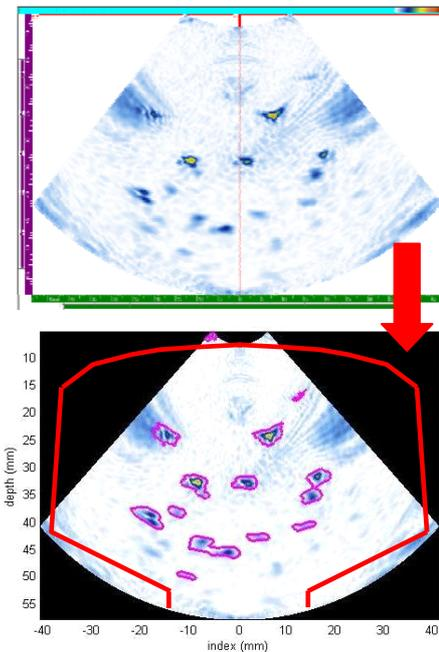
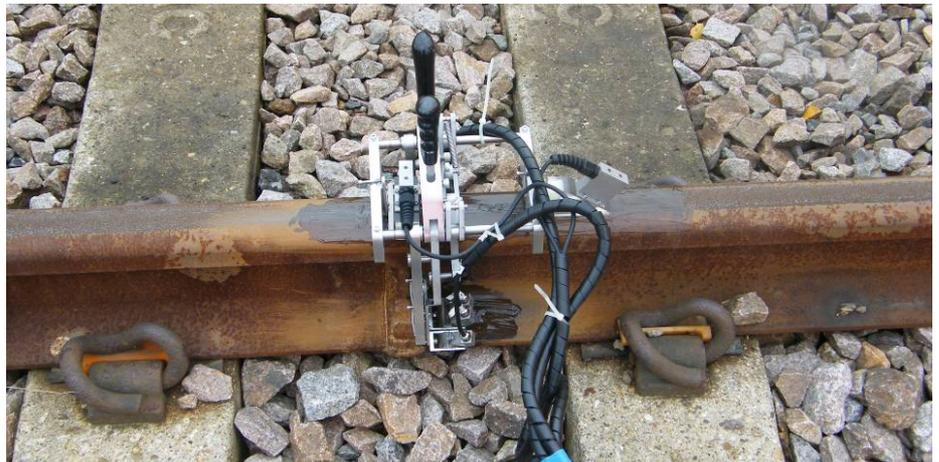

Figure 4 Data processing.
Figure 5 Final inspection tool on High Marnham's test track at the Rail Innovation and Development Centre.
**Laboratory and Field Trials:** Laboratory tests of the defective welds showed that ultrasonic indications could be correlated with known flaws, and that these could all be detected from just two applications of the device. Figure 4 shows an example of a sectorial scan taken from the rail head containing porosity and the correlation made during data processing. Preliminary field trials were carried out as soon as the first prototype was made available - although not fully completed. This had a considerable impact on the project outcome. Resulting from this demonstration, various improvements were made to the first iteration of the RAILECT device and this was rewarded by the final demonstration on Network Rail's test track (see Figure 5) which was a successful event.